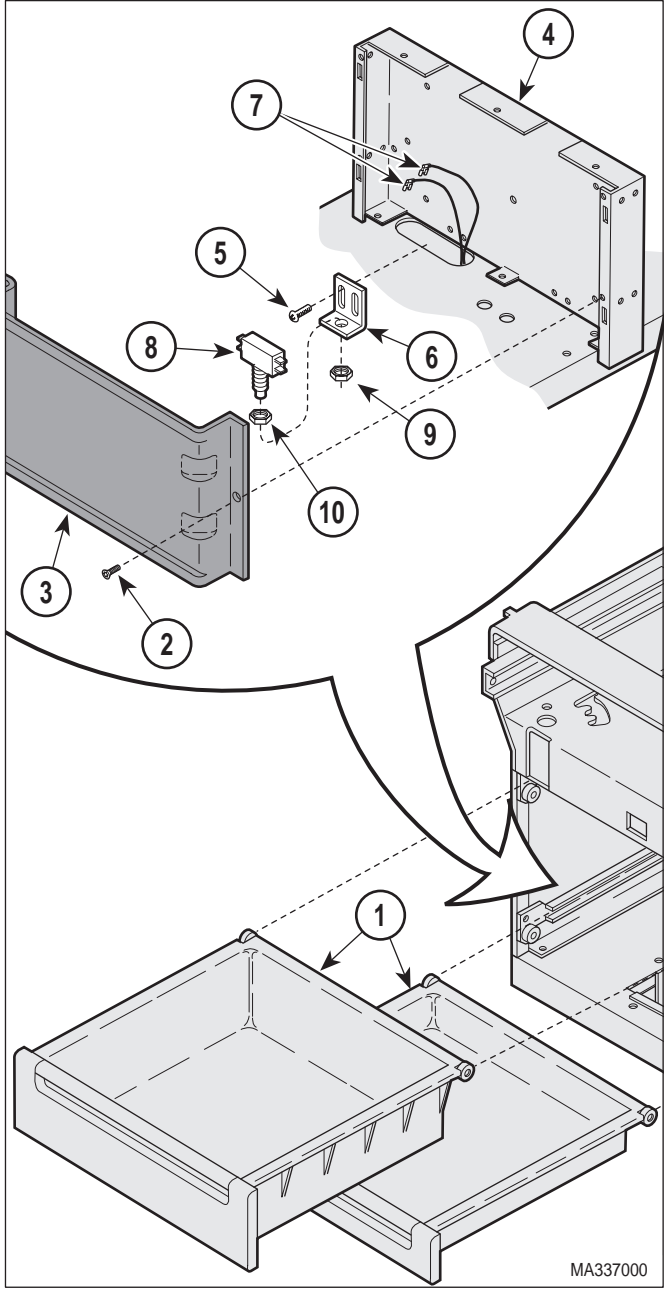

Figure 4-18. Base Down Limit Switch Removal / Installation
- (2) Unplug table power cord from wall outlet.
- (3) Remove two drawers (1, Figure 4-18) from foot end of table.
- (4) Remove two screws (2) and actuator cover (3) from center support (4).
- (5) Remove two screws (5) and separate limit switch bracket (6) from center support (4).
- (6) Tag and disconnect two wires (7) from base down limit switch (8).
- (7) Remove nut (9) and base down limit switch (8) from limit switch bracket (6).